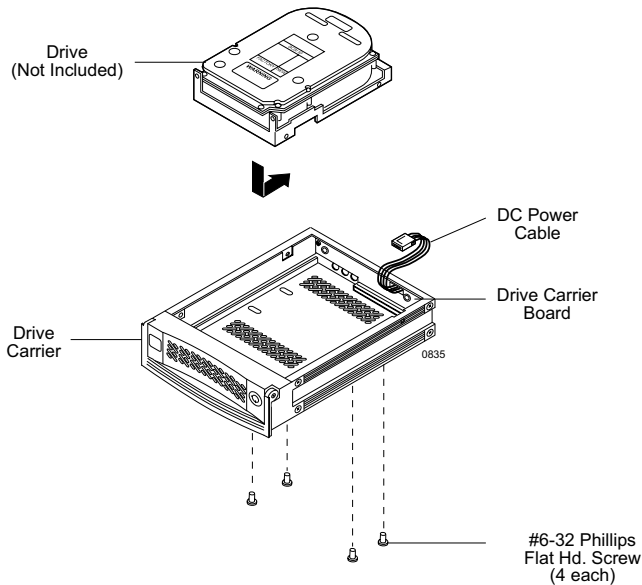

Figure 5: Drive Installation Assembly
1. Attach the DC power cable (from the Drive Carrier Board) to the drive (Figure 5).
2. Carefully insert the drive into the carrier. Slide the drive towards the Drive Carrier Board, so that the I/O connector on the drive mates with the connector on the Drive Carrier Board (Figure 5). **Make sure that the DC power cable is not pinched.**
3. Fasten the drive into place with four (4) #6-32 Phillips Flat Hd. screws (Figure 5).